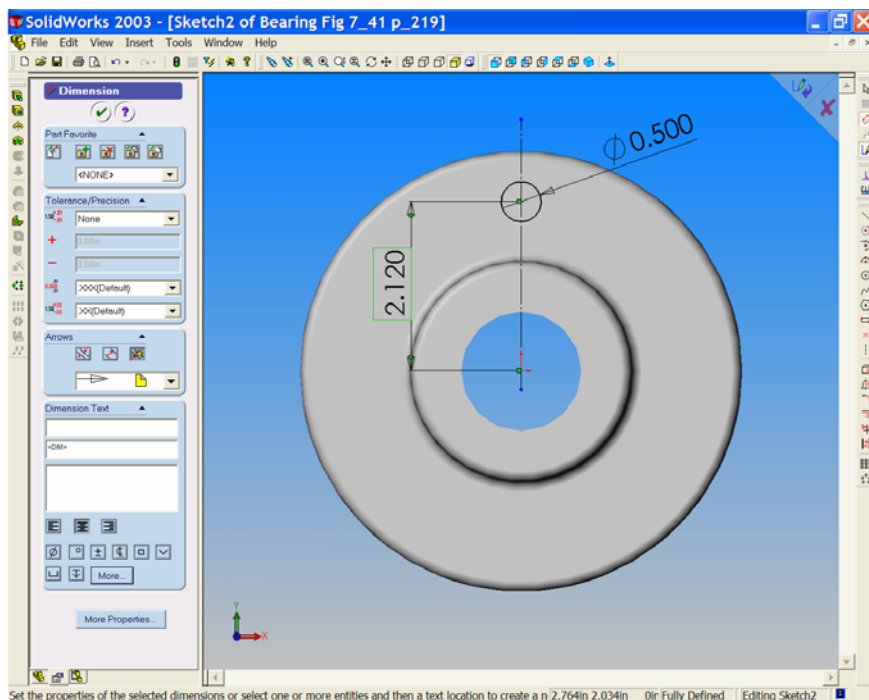

Figure 4
5. We must now place the 4 bolt holes in the flange. Select the front face of the flange and open a sketch on this surface. Select '**Normal To**'  and draw a circle as shown in Figure 4.